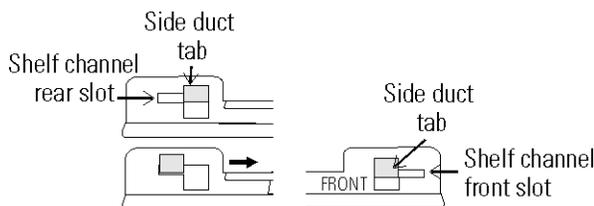

Figure 1-8. Slots and Tabs
3. Install the shelf channels by placing the channel's rear slot over the appropriate rear tab on the pilaster. Pull the shelf channel forward and engage the channel's front slot into the pilaster's appropriate forward tab. Refer to Figure 1-8.